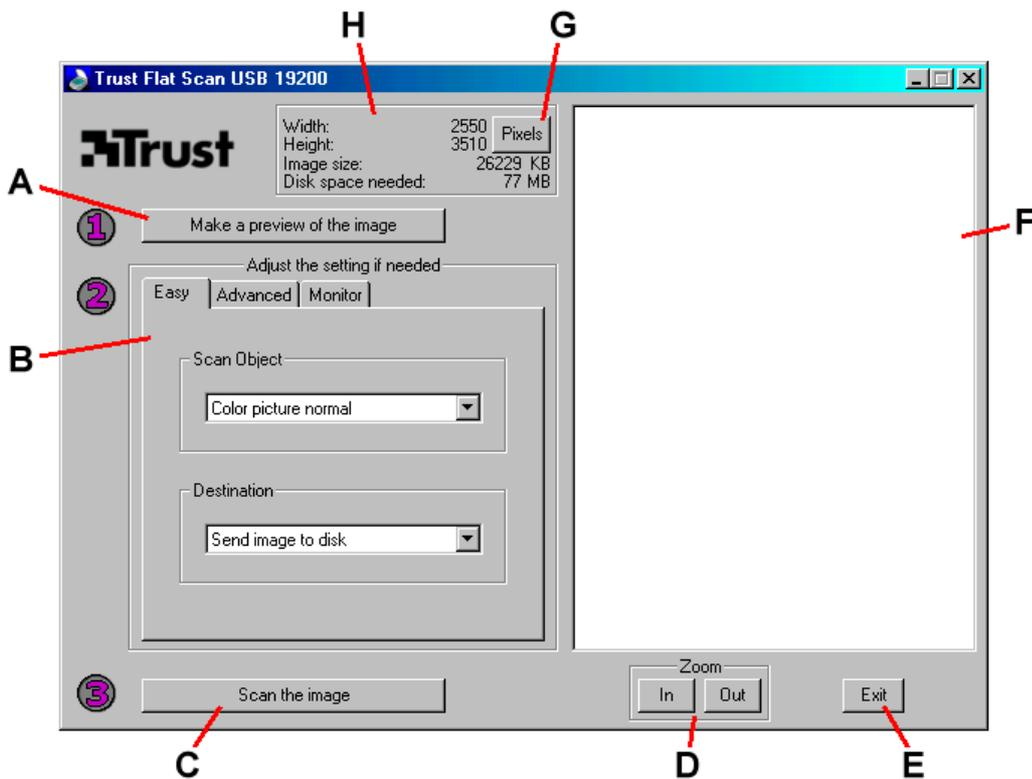
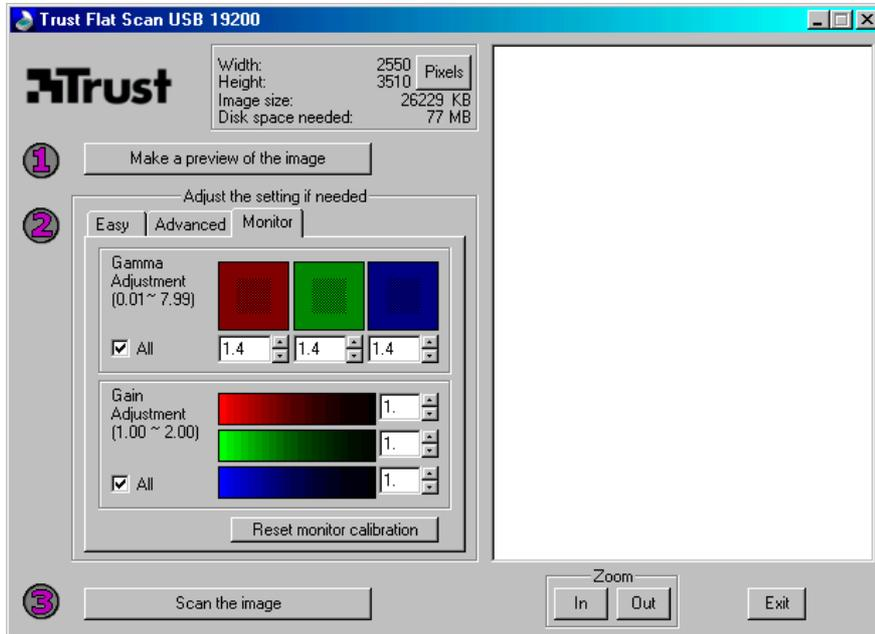

Figure 20: TWAIN main menu: 'Easy' user settings
Figure 23: Monitor calibration
Go to 'Start - Programs - Trust - Flat Scan USB 19200' and select 'Trust Flat Scan USB 19200'. The main TWAIN window will appear (see figure 20) after a short period of time. This time is needed for the calibration of the scanner.
Click on the 'Monitor' tab in the TWAIN window (see figure 20). Figure 23 will appear. The window can be used to change the colour tints of the scanned image. When printing the scanned image, exactly the same colour tints are reproduced as the changes made in this window.
Follow the steps below to make a scan. Also see figure 20.
2. After a short period of time, the main TWAIN window for the Trust Flat Scan USB 19000 will appear (see figure 20).